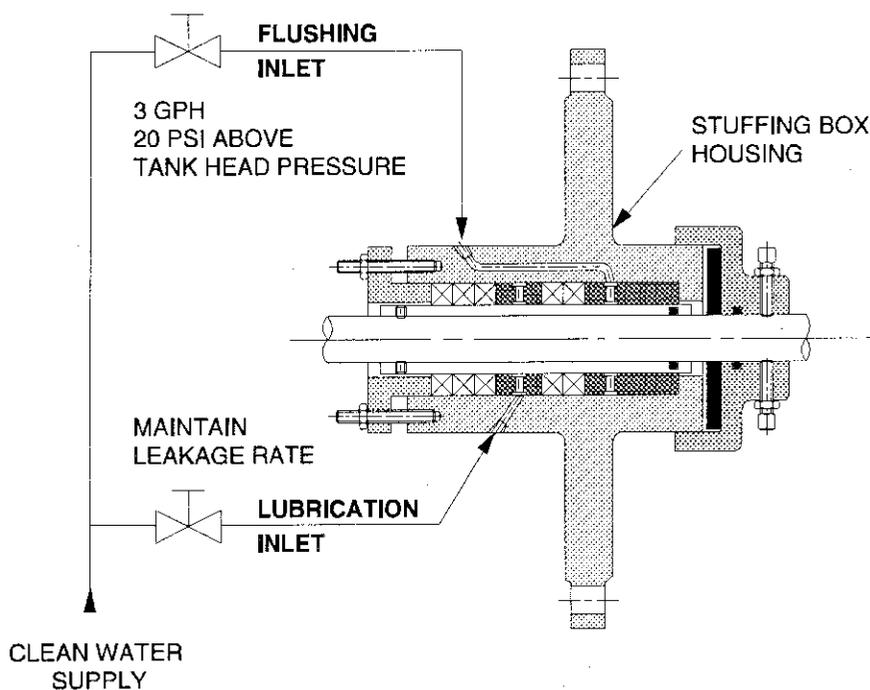
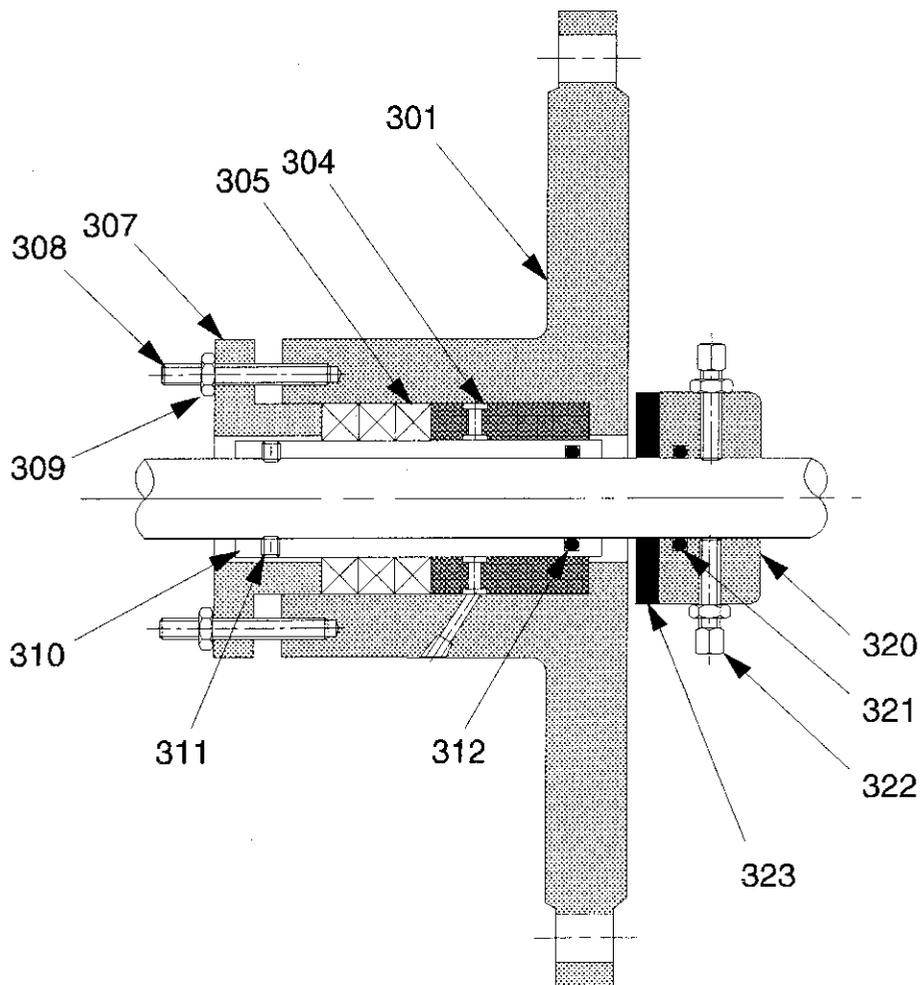
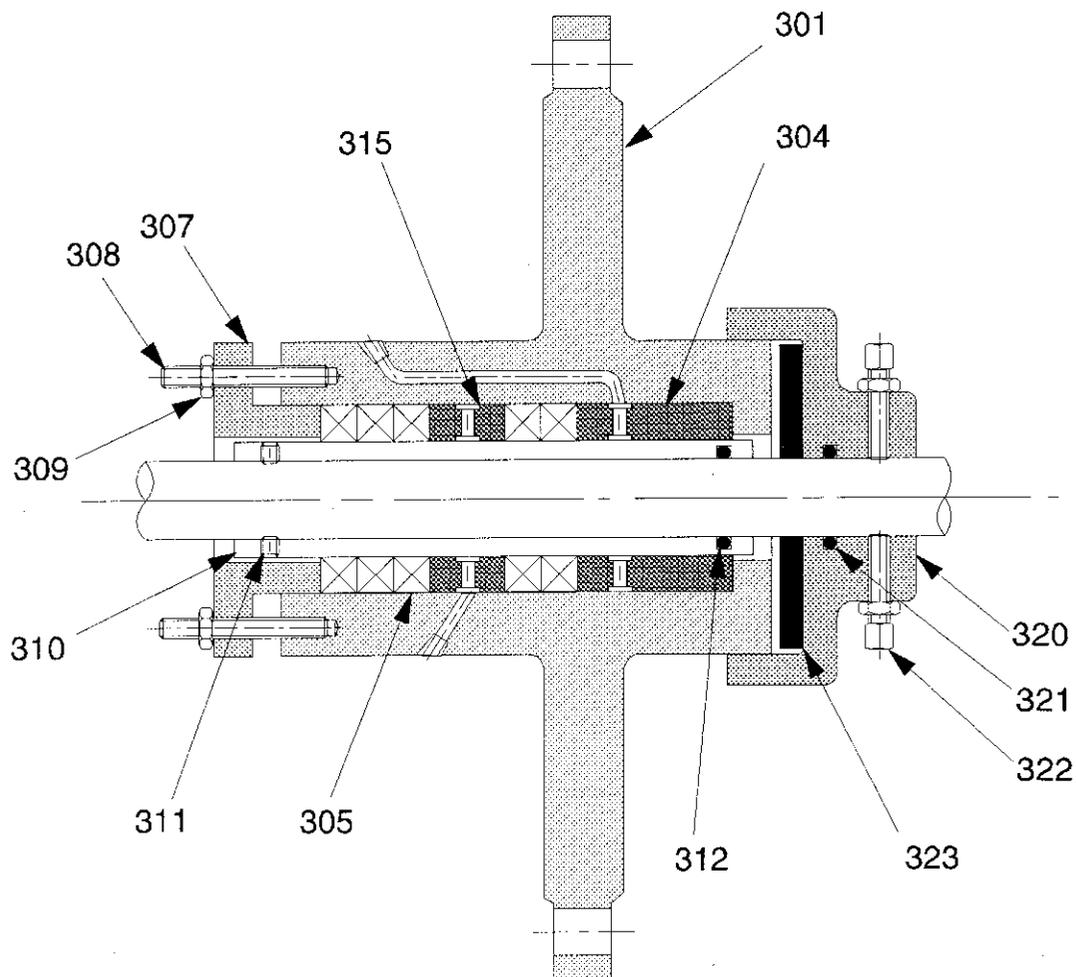
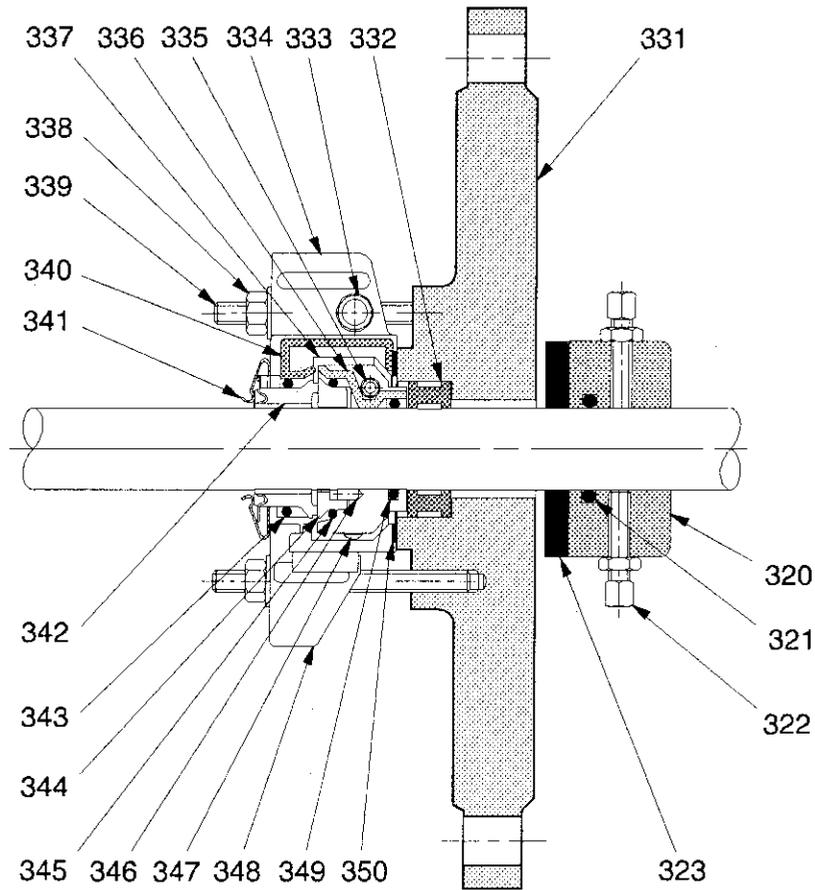

Figure 20: Type DL Stuffing Box Lubrication
Figure 24: Type L Stuffing Box
Figure 25: Type DL Stuffing Box
Figure 26: Type OM Split Mechanical Seal
Flushing Fluid Supply - The flushing fluid should be introduced to the stuffing box flushing inlet at a rate of 3 gph and a pressure 20 PSI above tank head pressure, Figure 20, page 29.
4. Unfasten the collar square head setscrews (322) and lock nuts. *See Figure 24, Figure 20, or Figure 26 for seal details.*
5. Clean the shaft thoroughly and apply a thin coat of oil to help the collar (320) with o-ring (321) to slide along the shaft and off the end.
6. Replace the shut-off collar (320) and seal ring (323). Insert a new o-ring (321) into the collar.
8. Position the seal ring (323) followed by the shut-off collar (320) assembly on the shaft. Carefully slide the collar along the shaft avoiding damage to the o-ring (321). Use a thin oil on the shaft to help slide into position.
9. Reposition the collar to the original location, so that the setscrews return to new or old spot holes in the shaft. Check to ensure that the shut-off seal ring is snug but free to turn between the shut-off collar and stuffing box face. Torque the square head setscrew (322) and lock nuts to the recommended value, *Table 13, page 81*.
Refer to Figure 24, page 43 and Figure 25, page 44.
NOTE: Ensure the correct order of all stuffing box components as shown in Figure 24 and Figure 25. Refer to the equipment specifications for the composition the components. For special Stuffing Box design, refer to the certified equipment drawings or contact your local representative for assistance.
Refer to Figure 26, page 49.